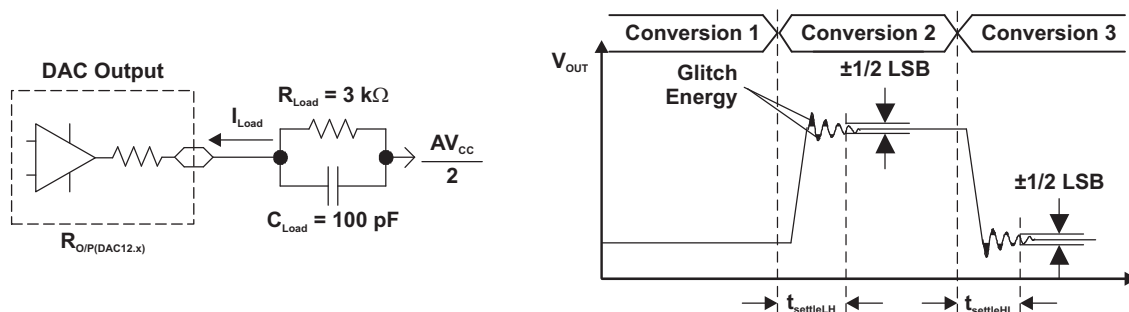
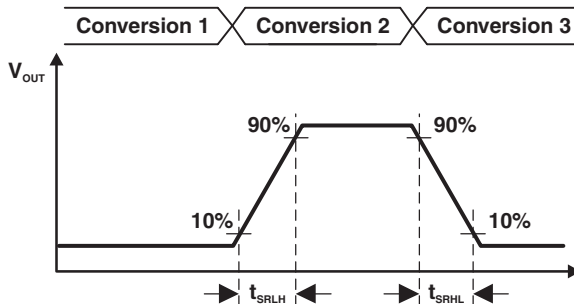

Figure 11. Settling Time and Glitch Energy Testing
Figure 12. Slew Rate Testing
VREF = VCC, DAC12IR = 1 (see Figure 11 and Figure 12)
- (1) RLoad and CLoad connected to AVSS (not AVCC/2) in Figure 11.
- (2) Slew rate applies to output voltage steps ≥ 200 mV.